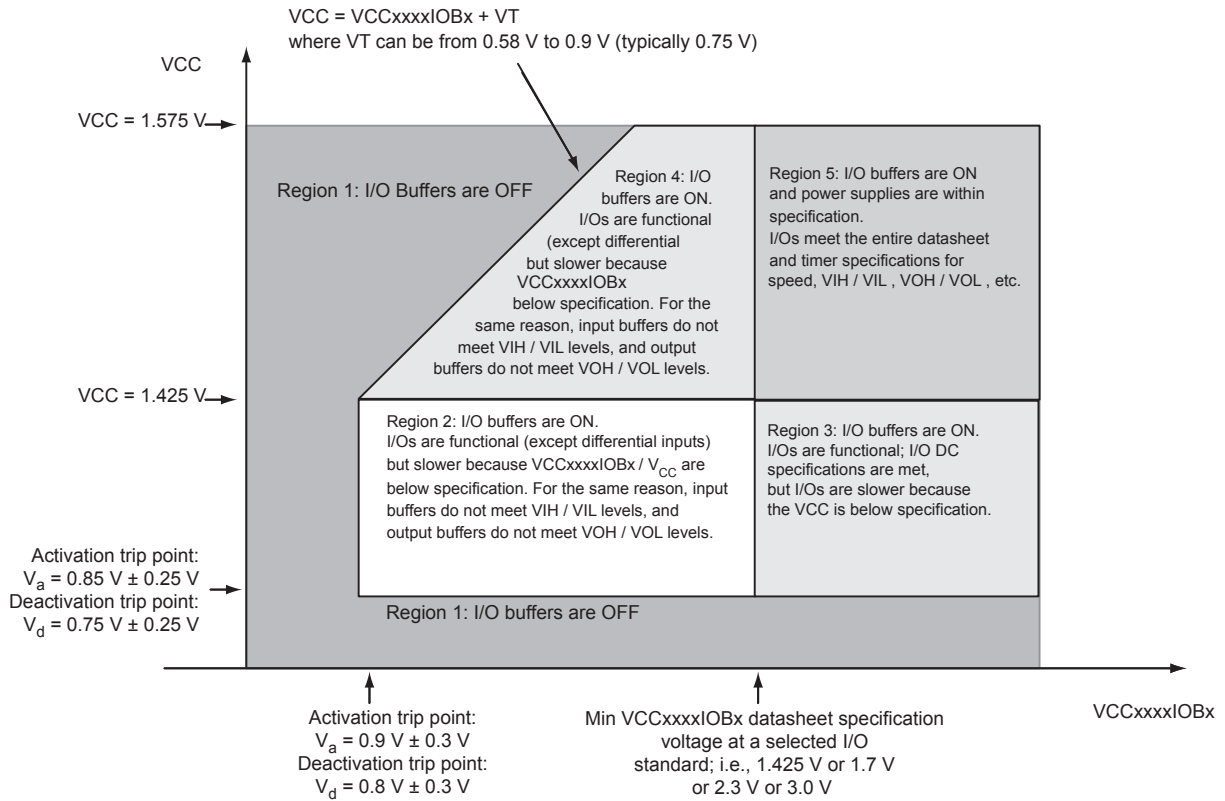

Figure 2-1 • I/O State as a Function of $V_{CCxxxxIOBx}$ and VCC Voltage Levels
Sophisticated power-up management circuitry is designed into every SmartFusion cSoC. These circuits ensure easy transition from the powered-off state to the powered-up state of the device. In addition, the I/O will be in a known state through the power-up sequence. The basic principle is shown in Figure 2-1 on page 2-6.
1. VCC and VCCxxxIOBx are above the minimum specified trip points (Figure 2-1 on page 2-6).
The Microsemi SoC Products Group recommends using monotonic power supplies or voltage regulators to ensure proper power-up behavior. Power ramp-up should be monotonic at least until VCC and VCCPLLx exceed brownout activation levels. The VCC activation level is specified as 1.1 V worst-case (see Figure 2-1 on page 2-6 for more details).